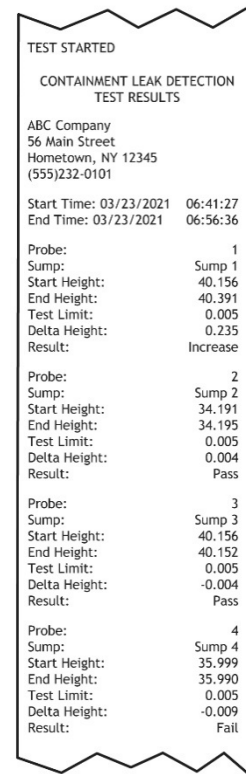

Figure 7.0
4. A report will print out from the printer (Figure 7.0).